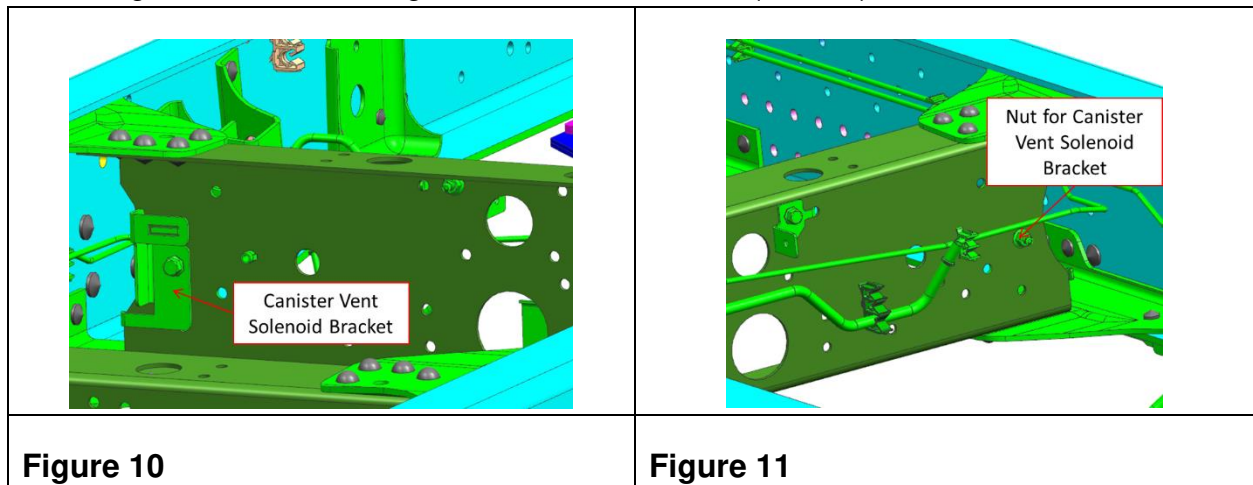

Figure 7
6. Disconnect the Purge Hose at the EVAP Canister. (See Figure 7.)